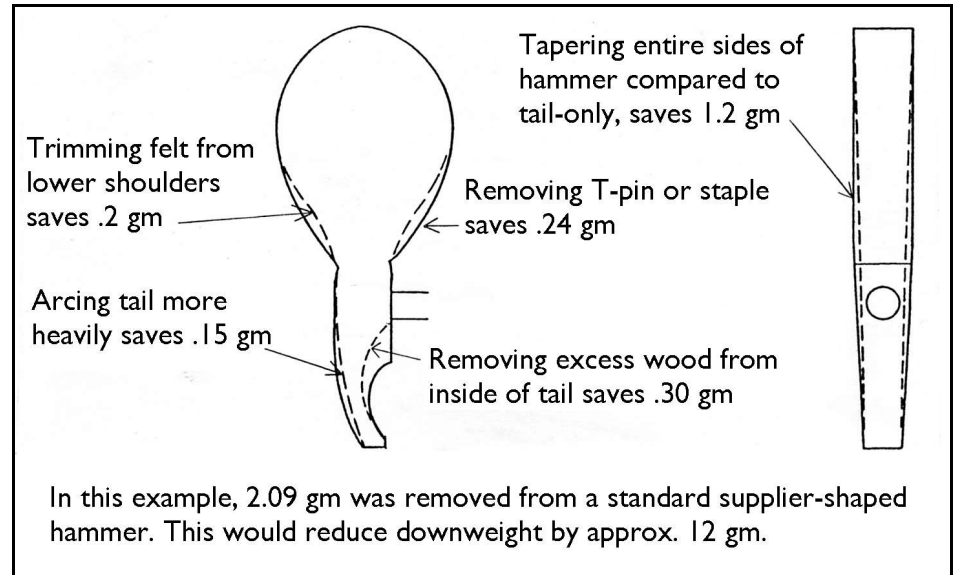
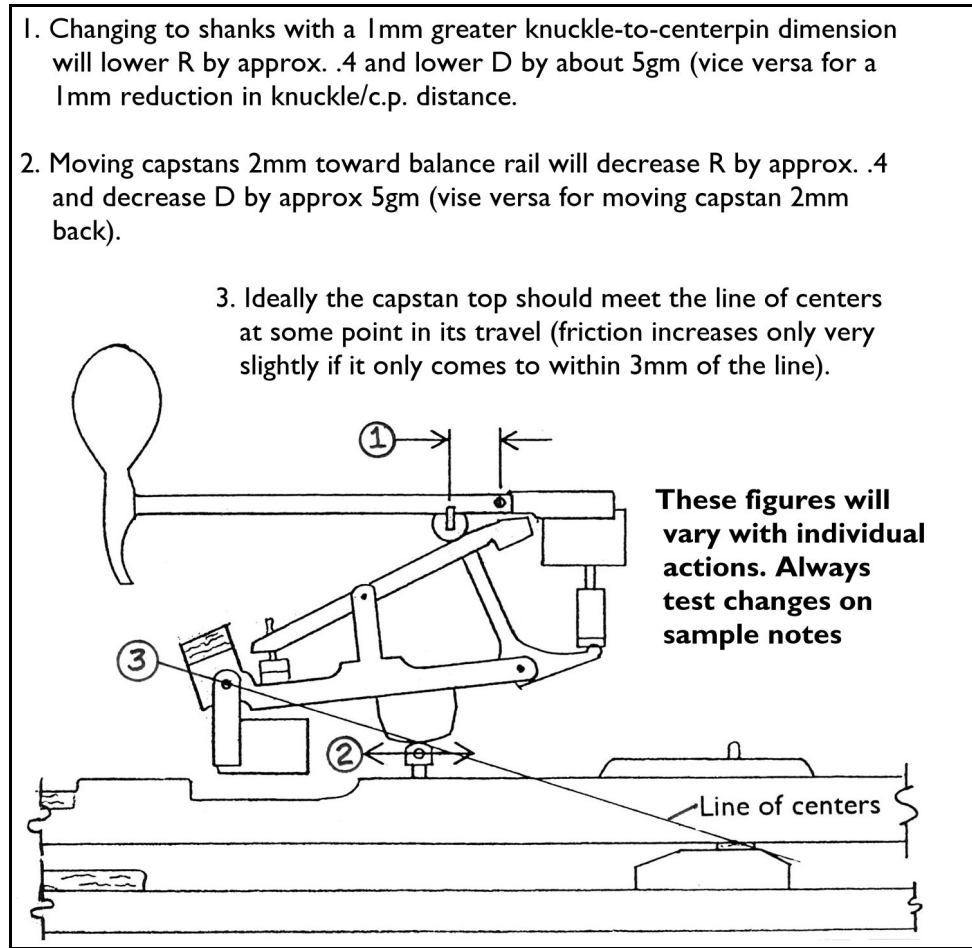

Figure 4: The Effect Of Various Shaping Operations On Touchweight
Figure 5: Two methods of changing action ratio
- The two easiest ways to change action ratio are changing hammershank knuckle-to-centerpin distance and capstan position (see Figure 5). This makes choice of proper replacement shanks and wippens critical in rebuilding.
► **Action feels too heavy:** Measure action ratio (R), then measure downweight (D), upweight (U), and compute friction (F) for several keys.
3. If F is OK, the problem is usually due to over-weight replacement hammers and/or R too high. There are four possible solutions: (1) replace with more appropriate hammers; (2) remove weight from the existing hammers by tail shaping, tapering, removing excess wood from inside the tails, extra filing and removing the staples (see Fig. 4); (3) Modify action ratio by moving the capstans or knuckles (see Figure 5); (4) add key leads. Adding extra key leads is the wrong choice if there is average leading already in the keys, since this increases inertia and may actually cause an even heavier feeling action.
3. Regulate the sample keys, then measure R, D, U and find F. Correct F if out of limits and re-measure D and U. Note: To minimize capstan friction, the capstan/wippen contact point should cross the line of centers (Figure 5) at some point in the key travel. If it does not at least come within 2mm of the line, you may want to correct this by a different choice of wippen heel, knuckle diameter, hammer bore, or by changing the height of the action brackets on the key frame.